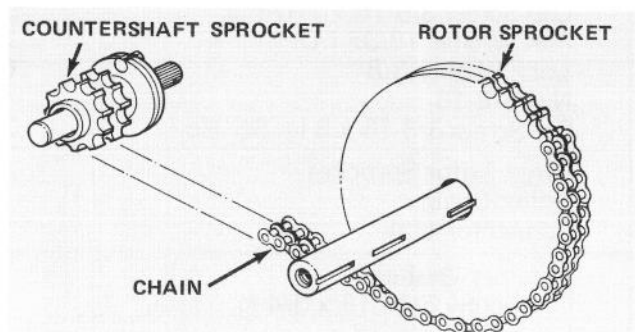

Figure 3
1. Install original key into rotor shaft keyway. Slide new 26-8650 large rotor sprocket onto rotor shaft until hub is flush with end of shaft (Fig. 3). Secure sprocket in place with set screw from obsolete rotor sprocket.
2. Align countershaft sprocket with rotor shaft sprocket, and install new 26-7440 double roller chain with the 287-11 connector link (Fig. 3).